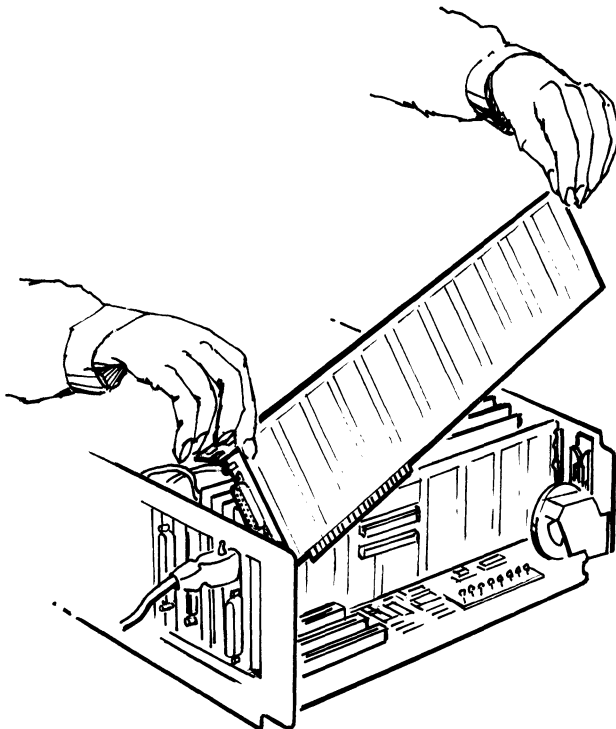

Figure 2-8. Inserting the EtherLink Card
2. As shown in figure 2-8, tilt the card so that the coaxial cable connector on the cover plate at the end of the card slips through the cut-out in the system unit rear panel.